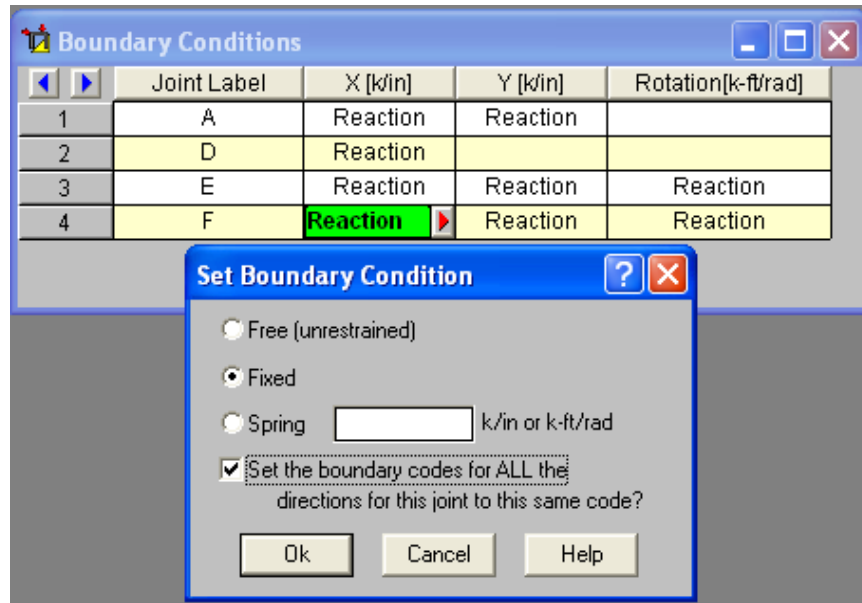

Figure 19
- (3) Follow step (4) to provide information for the **Boundary Conditions**. Since joints E and F are fix-ended, set the boundary codes for all the directions (X, Y, and rotation) as **Fixed** (see Figure 19).